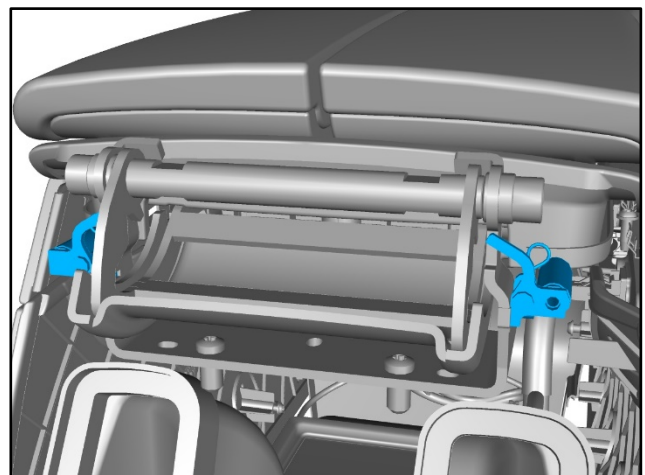

Figure 7
5. Operate the left side and right side hinge lock mechanisms. Make sure that the lock mechanisms self-return when actuated. (refer to Figure 7).